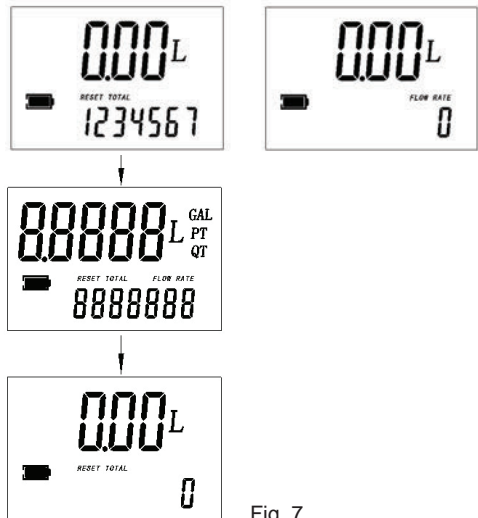

Fig. 7
• **Reset The Resettable Total (See Fig. 7)**